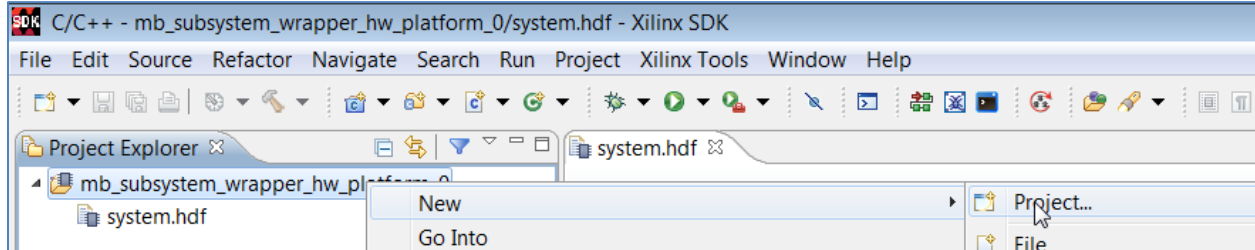

Figure 124: SDK New Project Selection
1. In SDK, right-click **mb_subsystem_wrapper_hw_platform_0** and select **New > Project** (FIGURE 124).